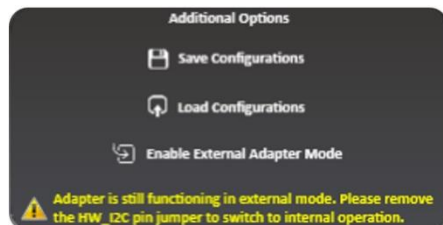

Figure 66: External mode disabled via the GUI while the jumper remains on the HW_I2C pin – the adapter will operate in external mode
- If you attempt to enter internal I2C mode with the jumper still on the **HW_I2C pin**, a warning message will pop up (Figure 66).